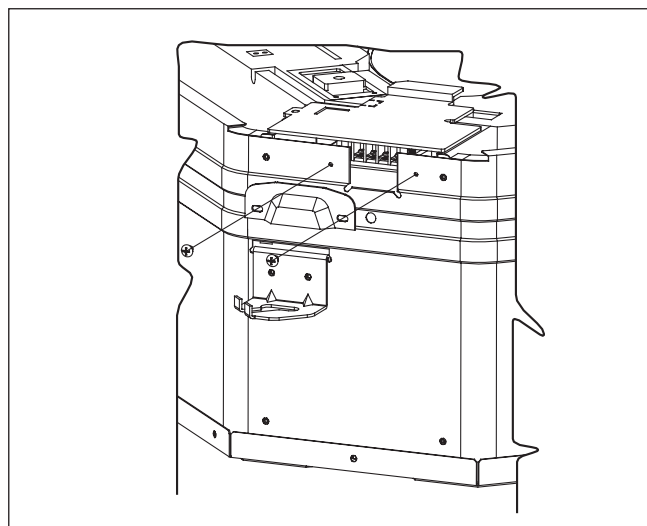

Figure 3
1. Remove wire cover by removing 2 screws as shown in Figure 3.